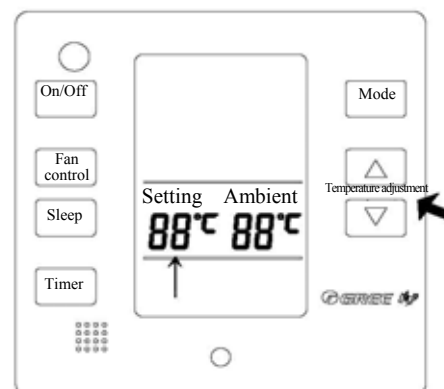

Fig 3
3) Temperature adjustment (Fig.3)